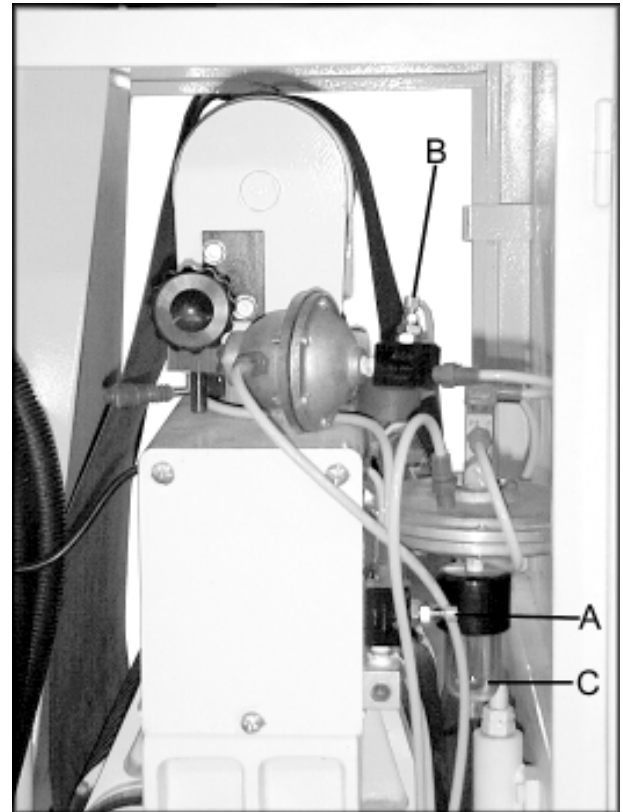

FIGURE 3
1. Adjust the air valve (A), Figure 3, to control the tracking sensitivity.
2. The oscillation speed can be controlled by adjusting the top air valve (B).
3. Empty the glass container (C) as needed.